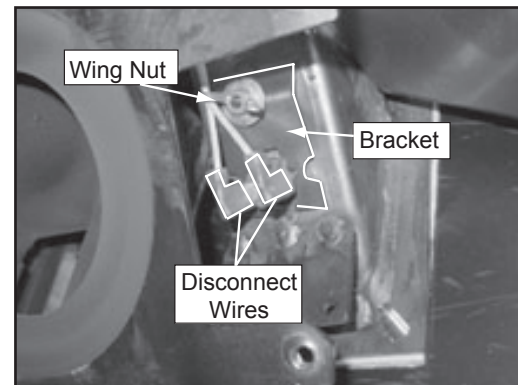

Figure 22.3
- i. Disconnect wires from snap disc #2. **Figure 22.3.**